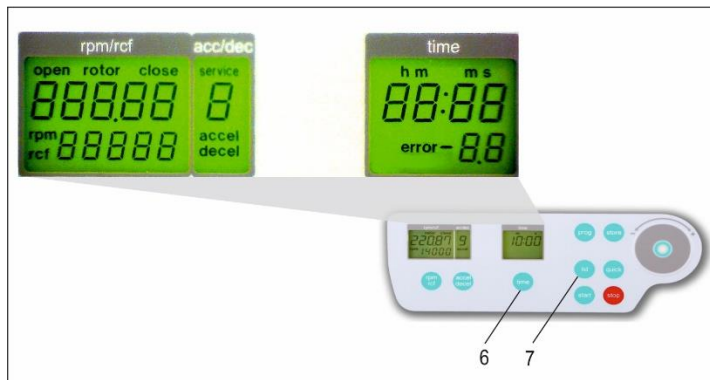

Figure 5
Open the centrifuge lid and shut off the main switch. Now switch on again the main switch. For approximately 3 seconds the software version and the model type will be shown in the display (see Figure 4). Press during this time the keys "time" (6) and "lid" (7) simultaneously. As a result, a display test is administered for approx. 3 seconds. All possible indications will appear at the same time (see Figure 5). The LED light is flashing alternately with green and red color.